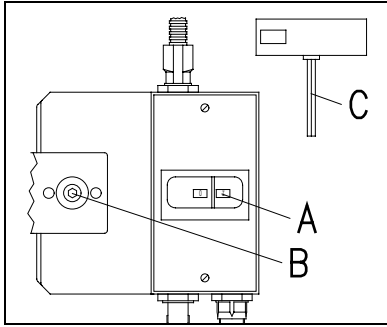
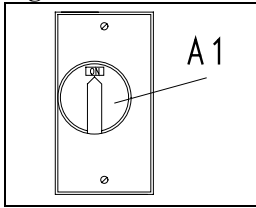

Fig.5.1
Fig.6
- * Press button **0** on main switch **A** Fig.5.1 or turn to **OFF** position. Fig.6
- Press button **0** on main switch **A** or turn to **OFF** position. Fig.6